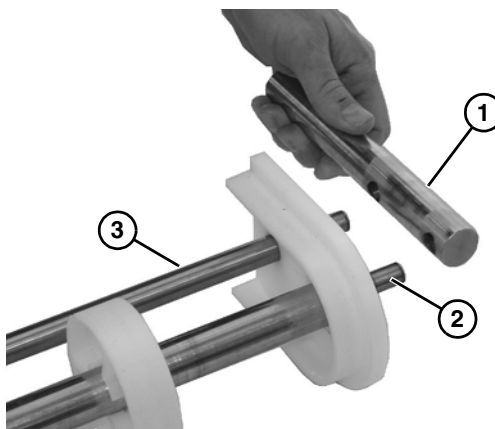

Figure 60
- Remove the bearing end rod (**Figure 60, item 1**) from idler shaft (**Figure 60, item 2**) and pinch guard shaft (**Figure 60, item 3**).